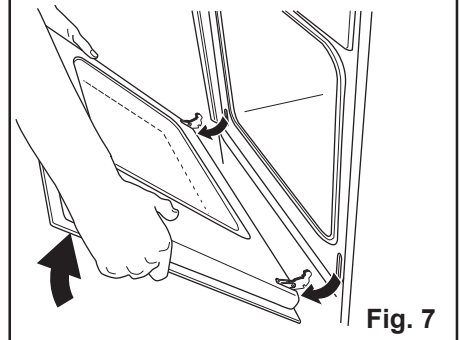

Fig. 7
4. hold the door by the side edges and close it slowly but not COMPLETELY (Fig. 7);
5. pull the door forward, removing it from its seat (Fig. 7);